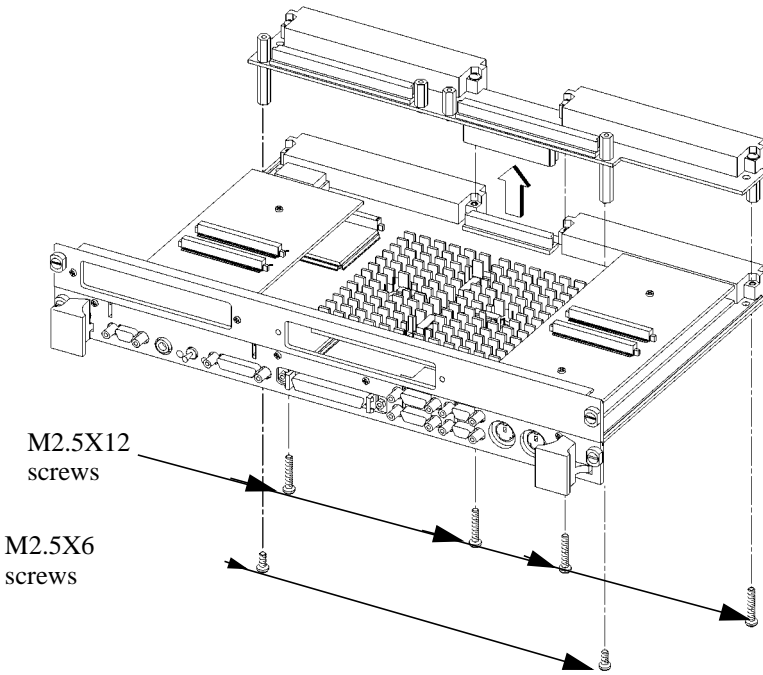

Figure 5-5 **Extension Adapter Fasteners**
- 1 Remove the two M2.5X6 screws from the bottom of the system board as shown in Figure 5-5.